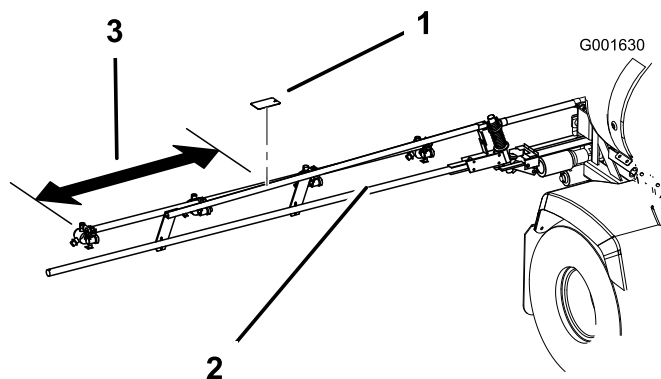
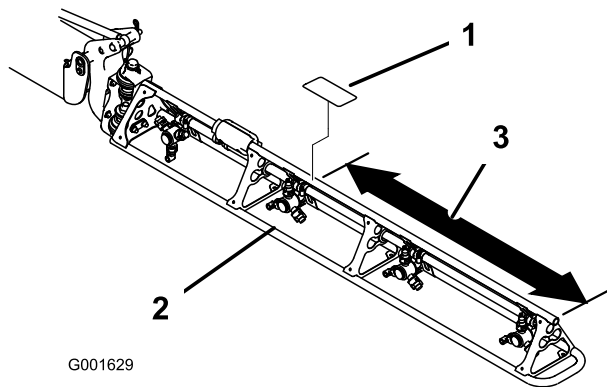

Figure 10
Figure 11
1. Measure from the end of the booms as shown in Figure 10 or Figure 11.
3. Remove the backing of the new decal and place onto the boom (Figure 10 or Figure 11).